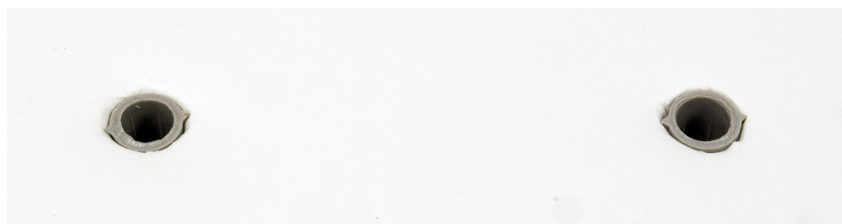

Figure 4. Plastic drywall anchors installed in wall
- 4 If required, install the supplied drywall anchors into the drilled holes, and make sure each anchor is flush against the wall's edge (**Figure 4**).